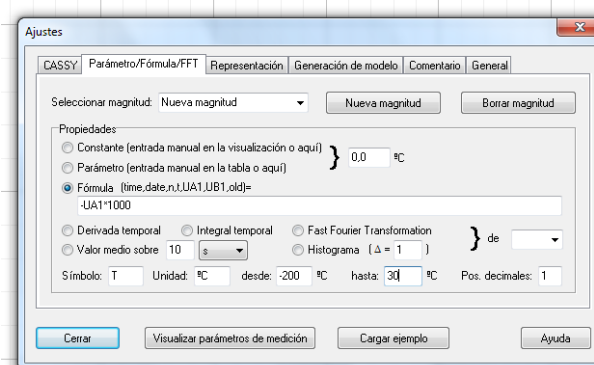

Figure 8. "Parámetro/formula/FTT" of CASSY.
- **Second**, click in the menu: Parámetro/Formula/FFT: select "Nueva magnitud". Click in formula (it must appear time, date, n,t,UA1,...) and write:  $-UA1 \cdot 1000$  (see Figure 8). On doing this the voltage for the temperature is transformed in the value of the temperature